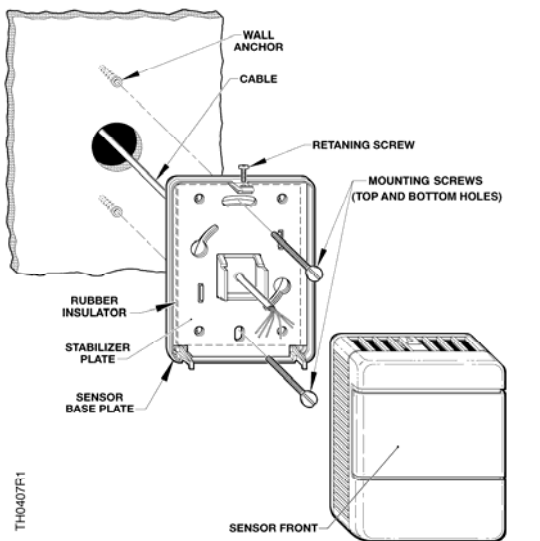

Figure 1. Drywall Mounting (No Rough-in), Typical.
Using the sensor base plate as a template, mark the center field wiring hole and the mounting hole locations (Figure 1).
12. Tighten the sensor front retaining screw (Figure 1).